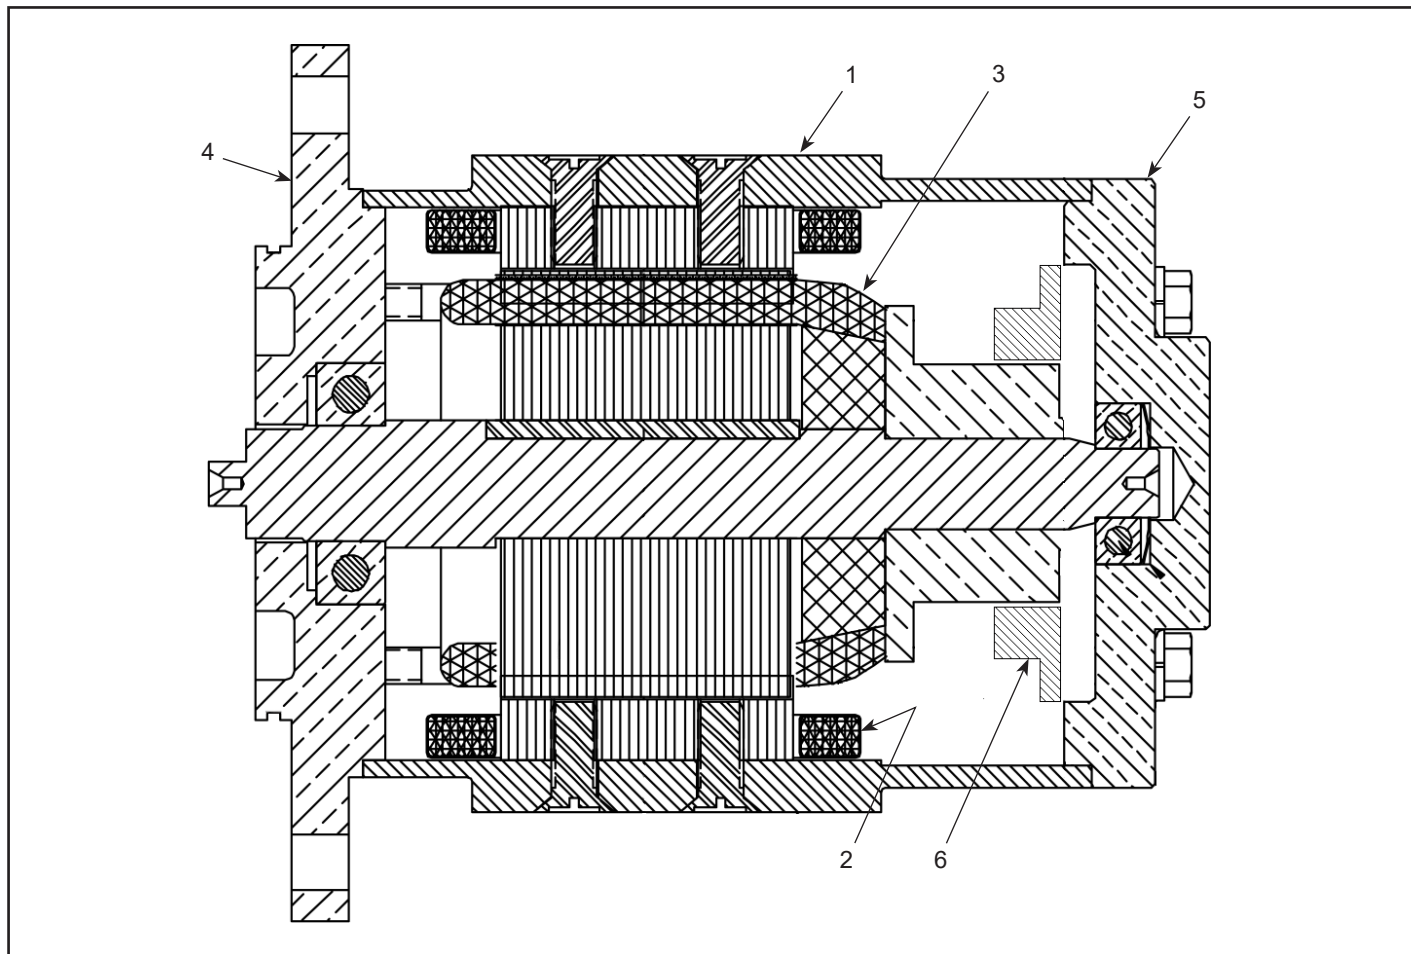

Fig. 2.1 - Typical Starter (Basic Components)
- A. The principle components of the aircraft starters described herein are the starter housing (1) field coils (2), armature (3), drive end housing assembly with bearing (4), commutator end housing with bushing (5), and the brush holder assembly with spring and brushes (6), see Fig. 2.1.